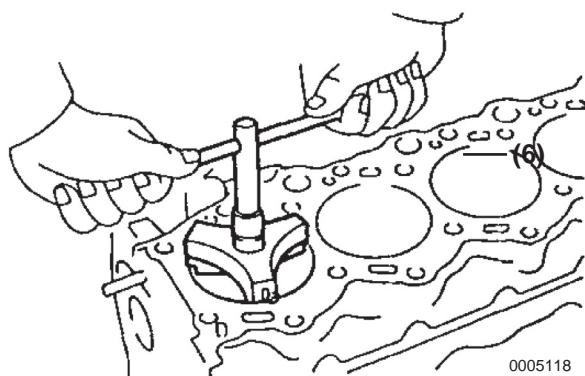

Figure 5-88
13. Before removing the pistons, remove all carbon deposits from the upper cylinder ridge areas (Figure 5-88).